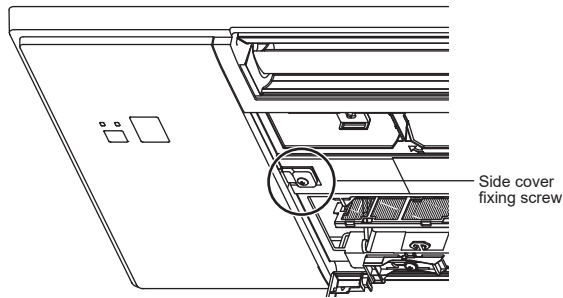

Fig. 9
11. Fix the side covers L/R with the side cover fixing screws removed in step 2. (Fig. 9)